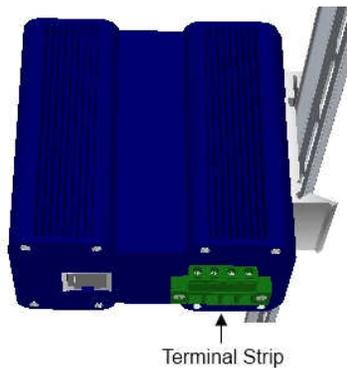

Figure 2.4.3 – 4-Pin Terminal Strip on AIA1801-200-04
4. Locate the terminal strip on the bottom of the unit as shown in the figure 2.4.3.